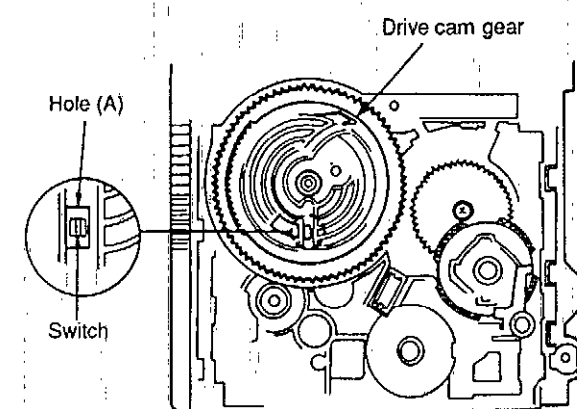

Fig. 4
7. Align the hole (A) of the drive cam gear with the switch, and then insert the drive cam gear. (See Fig. 4.)
- Note: In case that the drive cam gear is inserted into the holes except the hole (A) of the drive cam gear, the switch may be damaged.